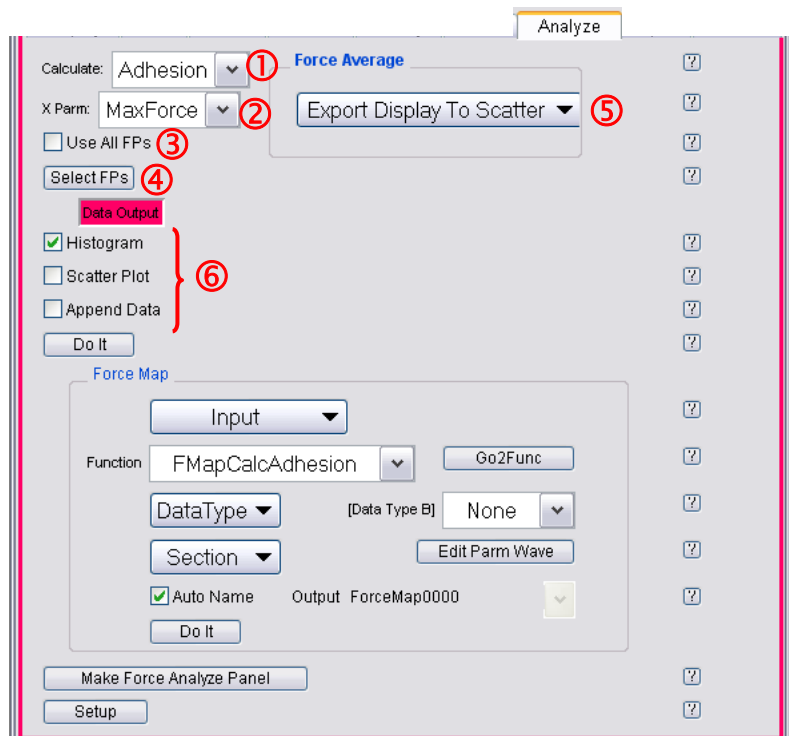

Figure 11.5.2G.1: Analyze subtab is where histograms and FMaps can be batch processed.
① **Calculate** Pull-down: select what Y dimension for the batch analysis calculation
② **X Parm** pull-down: this defines what the X Axis will be
③ **Use All FPs** checkbox : uses all force curves loaded in memory for the calculation
④ **Select FPs** button- this brings up a alternate panel to select specific curves (see Figure 11.5.2G.2).
⑤ **Export Display to Scatter** pull-down: